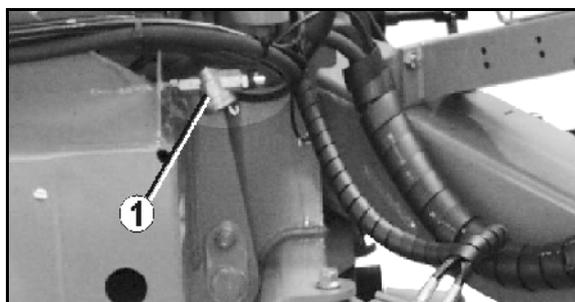

Fig. 91
1. Press together the locking piece (Fig. 91/1) on the two lugs.
4. Press together the locking piece (Fig. 91/1) on the two lugs.